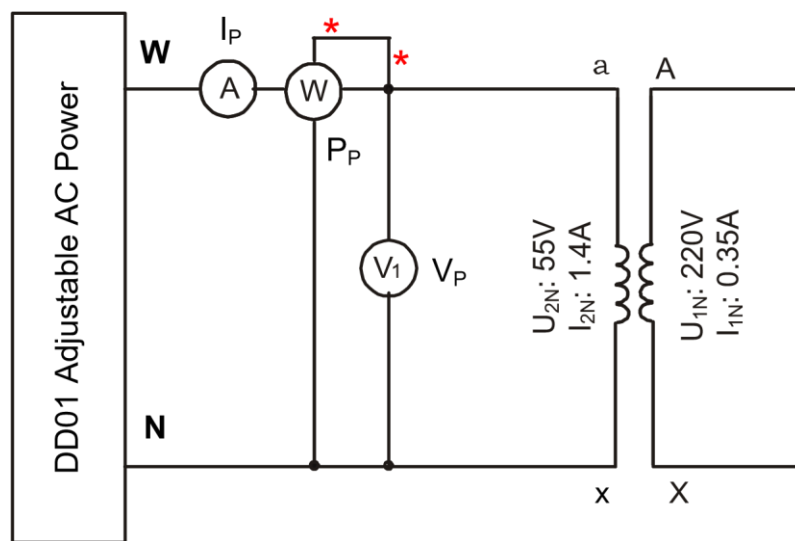

Figure 6: Short Circuit Test Setup
The experimental setup is shown on Figure 6.
2. Connect a short circuit wire across the transformer Secondary winding as shown on Figure 6, where secondary side of the transformer is short circuit.